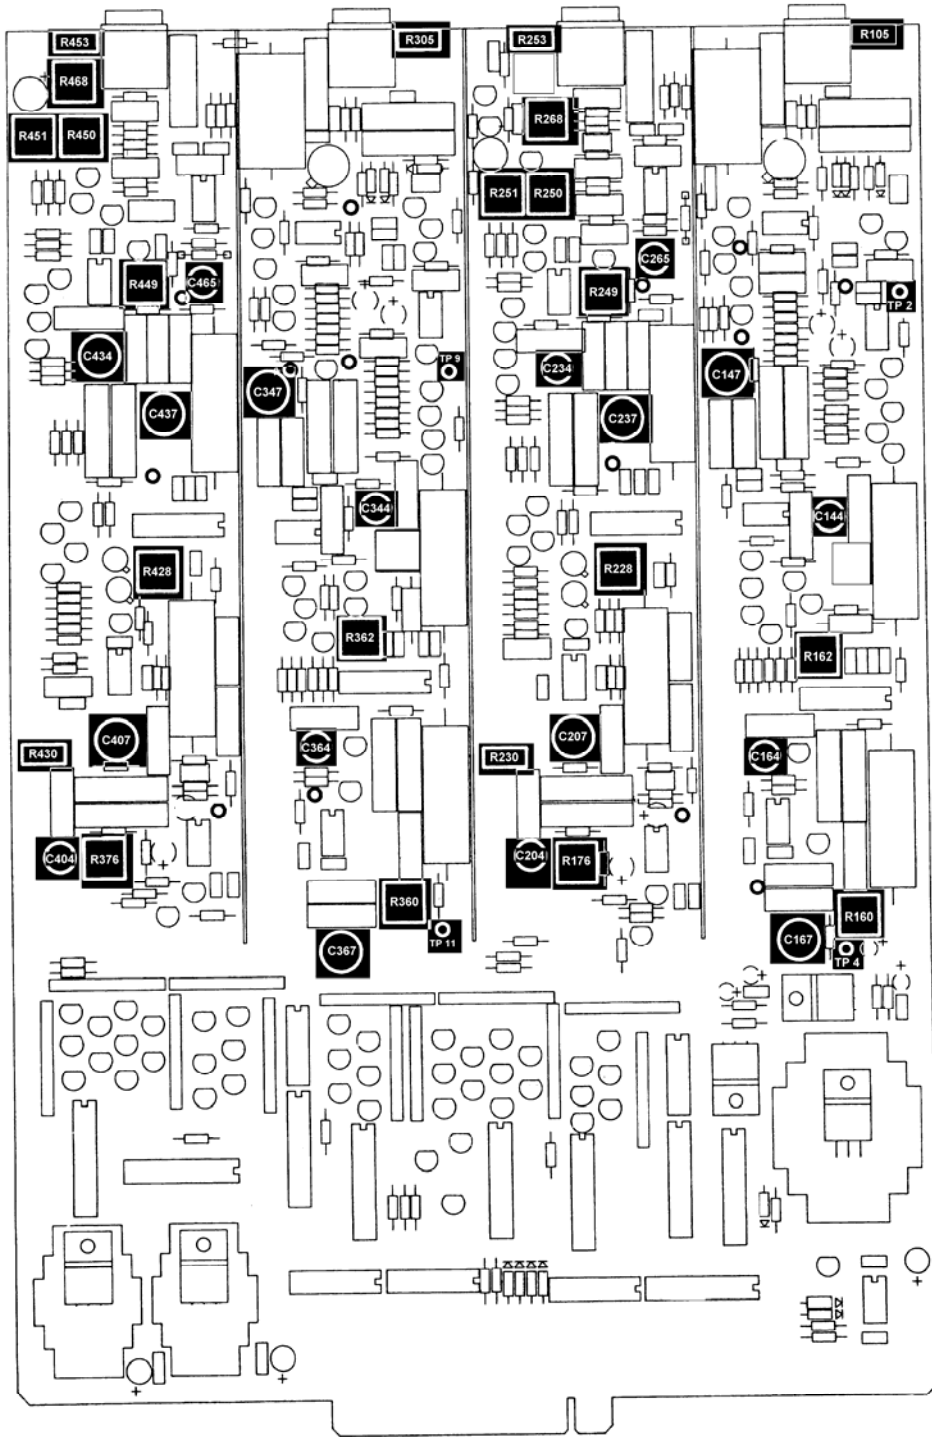

Figure 2. Motherboard.
- h. Connect true rms voltmeter to test point TP 4 (fig. 2) and chassis ground.
- j. Alternate calibrator and TI frequencies between 25.6 kHz and 175 kHz using technique of **f** above to enter TI frequency. Adjust C167 (fig. 2) for a -5.33 dB true rms voltmeter indication or split the difference between the two readings.
- k. Connect true rms voltmeter to TP 2 (fig. 2) and chassis ground.
- l. Alternate calibrator and TI frequencies between 25.6 kHz and 175 kHz using technique of **f** above to enter TI frequency. Adjust C147 (fig. 2) for a -5.33 dB true rms voltmeter indication or split the difference between the two readings.
- n. Press corresponding keys as listed in (1) through (5) below and verify **CUTOFF FREQUENCY** indicates **2.100**.
- (1) **2** data entry key.
- (2) **.** data entry key.
- (3) **1** data entry key.
- (4) **KILO** parameter key.
- (5) **FREQ** parameter key.
- o. Alternate between TP 2 and TP 4. Adjust R162 (fig. 2) for a -5.33 dB true rms voltmeter indication or split the difference between the two test point readings.
- p. Connect true rms voltmeter to test point TP 4 (fig. 2) and chassis ground.
- q. Press corresponding keys as listed in (1) through (5) below and verify **CUTOFF FREQUENCY** indicates **256.0**.
- (2) **5** data entry key.
- (3) **6** data entry key.
- r. Adjust calibrator for a 256 kHz, 1 V output. If true rms voltmeter does not indicate -5.33 dB, adjust C164 (fig. 2) until true rms voltmeter indicates -5.33 dB.
- t. Connect true rms voltmeter to test point TP 2 (fig. 2) and chassis ground. If true rms voltmeter does not indicate -5.33 dB, adjust C144 (fig. 2) until true rms voltmeter indicates -5.33 dB.
- v. Connect true rms voltmeter to test point TP 4 (fig. 2) and chassis ground.
- w. Alternate calibrator and TI frequencies between 25 kHz and 250 kHz using technique of **f** above to enter TI frequency. Adjust R160 (fig. 2) for a -5.33 dB true rms voltmeter indication or split the difference between the two readings.
- d. Press corresponding keys as listed in (1) through (4) below and verify **CUTOFF FREQUENCY** indicates **25.00**.
- (3) **KILO** parameter key.
- (4) **FREQ** parameter key.
- f. Press **MODE** parameter key until **CUTOFF FREQUENCY** display indicates **L.P**. If true rms voltmeter does not indicate 0 dB, ± 0.01 dB, adjust R250 (fig. 2) until true rms voltmeter indicates 0 dB, ± 0.01 dB.
- g. Press corresponding keys as listed in (1) through (4) below and verify **CUTOFF FREQUENCY** indicates **256.0**.
- j. Press **MODE** parameter key until **CUTOFF FREQUENCY** display indicates **h.P**. If true rms voltmeter does not indicate 0 dB, ± 0.01 dB, adjust R251 (fig. 2) until true rms voltmeter indicates 0 dB, ± 0.01 dB.
- b. Press corresponding keys as listed in (1) through (3) below and verify **CUTOFF FREQUENCY** indicates **2.000**.
- (2) **KILO** parameter key.
- (3) **FREQ** parameter key.
e. Adjust calibrator for a 2 MHz, 0.1 V output. If true rms voltmeter does not indicate 0 dB, ±0.01 dB, adjust C265 (fig. 2) until true rms voltmeter indicates 0 dB, ±0.01 dB, or as close to 0 db as possible.
f. Press corresponding keys as listed in (1) through (5) below and verify **CUTOFF FREQUENCY** indicates **1.500**.